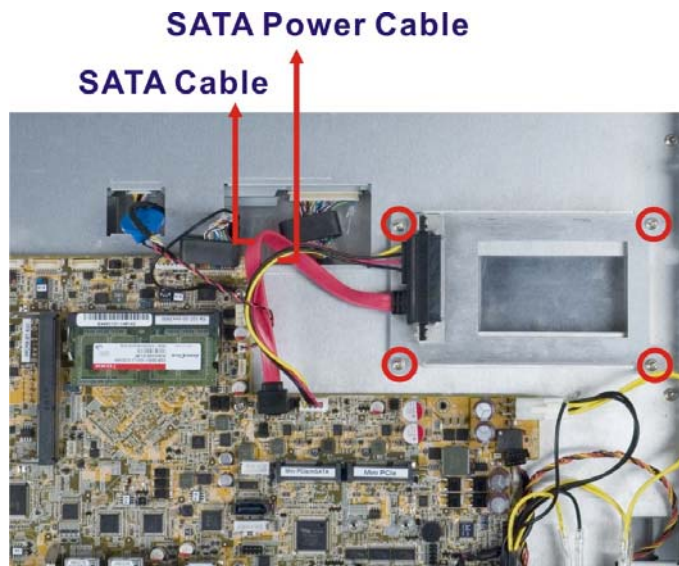

Figure 3-4: PPC-F17B-BTi HDD Bracket Retention Screws
Step 2: Remove the HDD bracket from the PPC-F12B/15B/17B-BTi. The HDD bracket is secured on the panel PC with four retention screws (Figure 3-4). Remove the four retention screws and disconnect the SATA and SATA power cables. Lift the bracket off the panel PC.